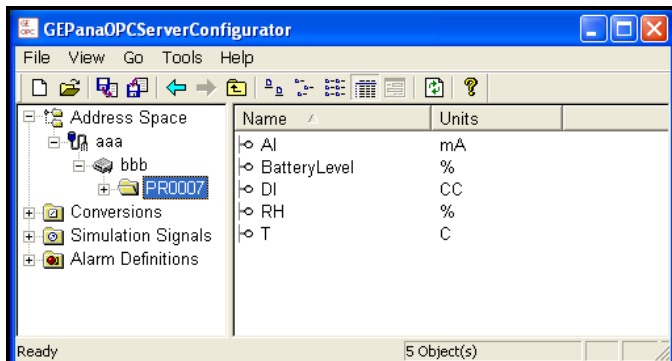

Figure B-11: Viewing Sensor Units in the Sensor Window
2. Click on the Details button. The screen now appears similar to Figure B-11 below.